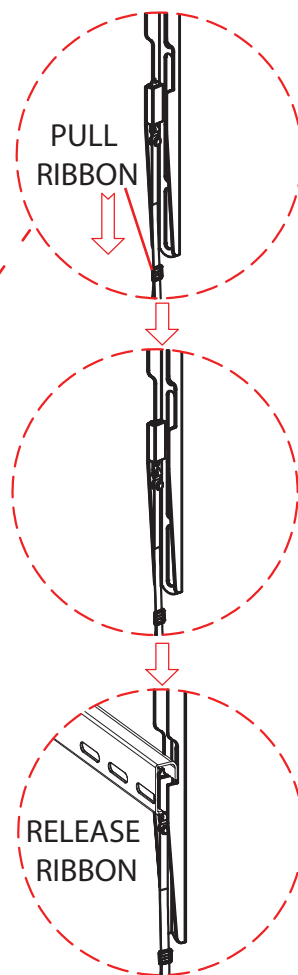

Fig 4b
2. As the TV swings down and the lower part of the brackets come in contact with the wall mount plate, secure each bracket to the Mount plate by pulling down on the attached ribbon (one bracket at a time) to open the spring-loaded lock (Fig. 4b). Release each ribbon to close and secure the lock mechanism. Test each lock by pulling gently upward from the bottom of the TV. If the lock is secure the TV will not pull upward.